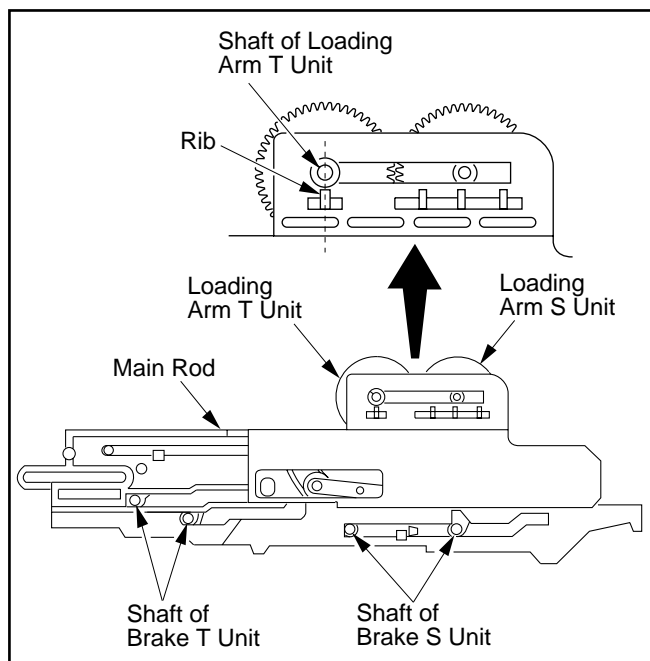

Fig. A3
1. Install the Main Rod so that the rib on the Main Rod aligns with the shaft of the Loading Arm T Unit. Make sure that the shafts of the Brake Ass'y are positioned as shown in Fig. A3.